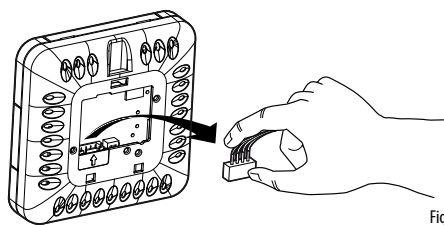

Fig. 2
2. 从前面部分拔下四芯连接线 (Fig.2)
2. disconnect the 4-pin connector from the front part (Fig. 2);